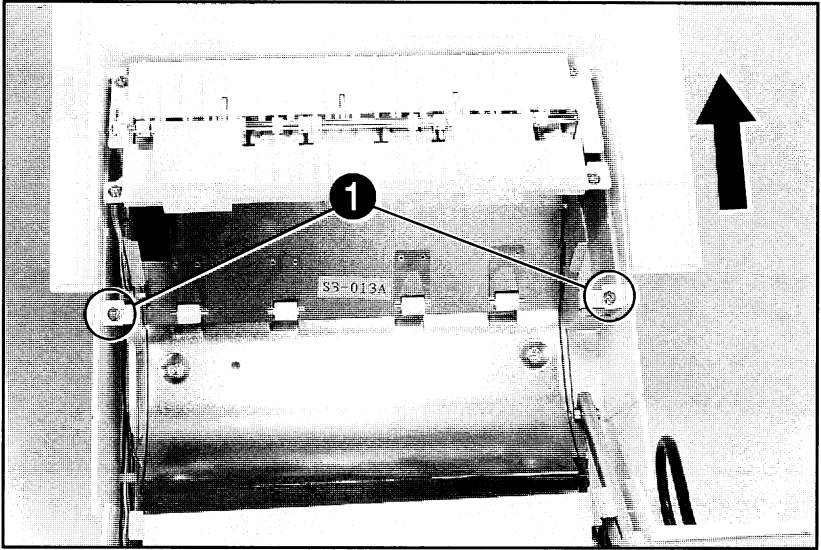

Figure A-5 Switchback Cover
- 1 Remove the (2) screws shown in Figure A-5, callout 1.